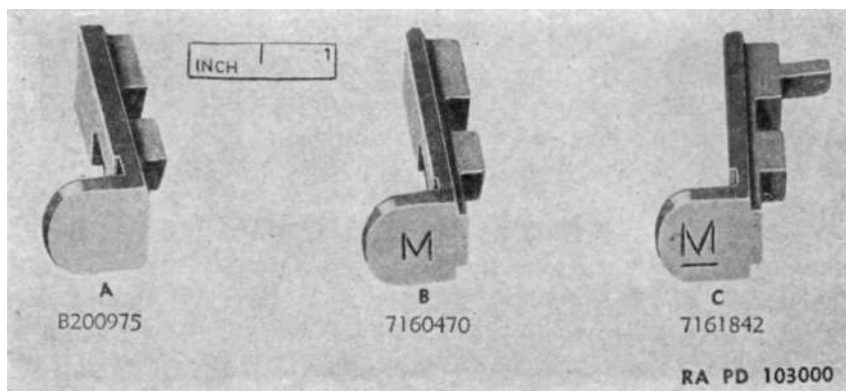

Figure 27. Old and new type of magazine catch — carbines, cal. .30, M1, M1A1, M2, and M3.
j. **MAGAZINE CATCH.** Test function of magazine catch. It should return to position when pressed and released. Check catch for free movement in guideway, deformation, worn or burred retainer plunger recess, and worn or burred magazine retention lugs. (See fig. 27.) Check magazine catch spring plunger for retention on spring, wear, and burs, and check spring for functioning, deformation, and set. Free length of spring is 0.813 (approximately $\frac{7}{8}$) inch. When assembled, last coil of spring is contracted slightly and fits into groove in shank of plunger for retention. Magazine catch (B7160470), and magazine catch retainer plunger with safety plunger, assemblies (B7160472) should be used. This is the catch that protrudes outward farther than the old design, thereby providing greater engagement between the catch and the nibs on the back of the magazine. It can be readily identified by the letter "M" on the right-hand side. Illustrated in figure 27 are: old type magazine catch B200975, which is to be discarded; new type magazine catch 7160470, which has a letter "M" stamped on the thumb piece as an identifying feature; and new type magazine catch 7161842, which is currently supplied with the carbine M2. This can also be used on the carbines M1, M1A1, and M1A3. Its identifying features are an underlined "M" stamped on the thumb piece and a supporting tang.
e. MAGAZINE CATCH. See that projection on left end of catch is neither bent nor burred. Magazine catch must have this identification mark "M". (See fig. 27.)
c. Push magazine catch to left and release. Catch should return positively and smoothly to its original position. Magazine catch must be of the latest design (See fig. 27.)